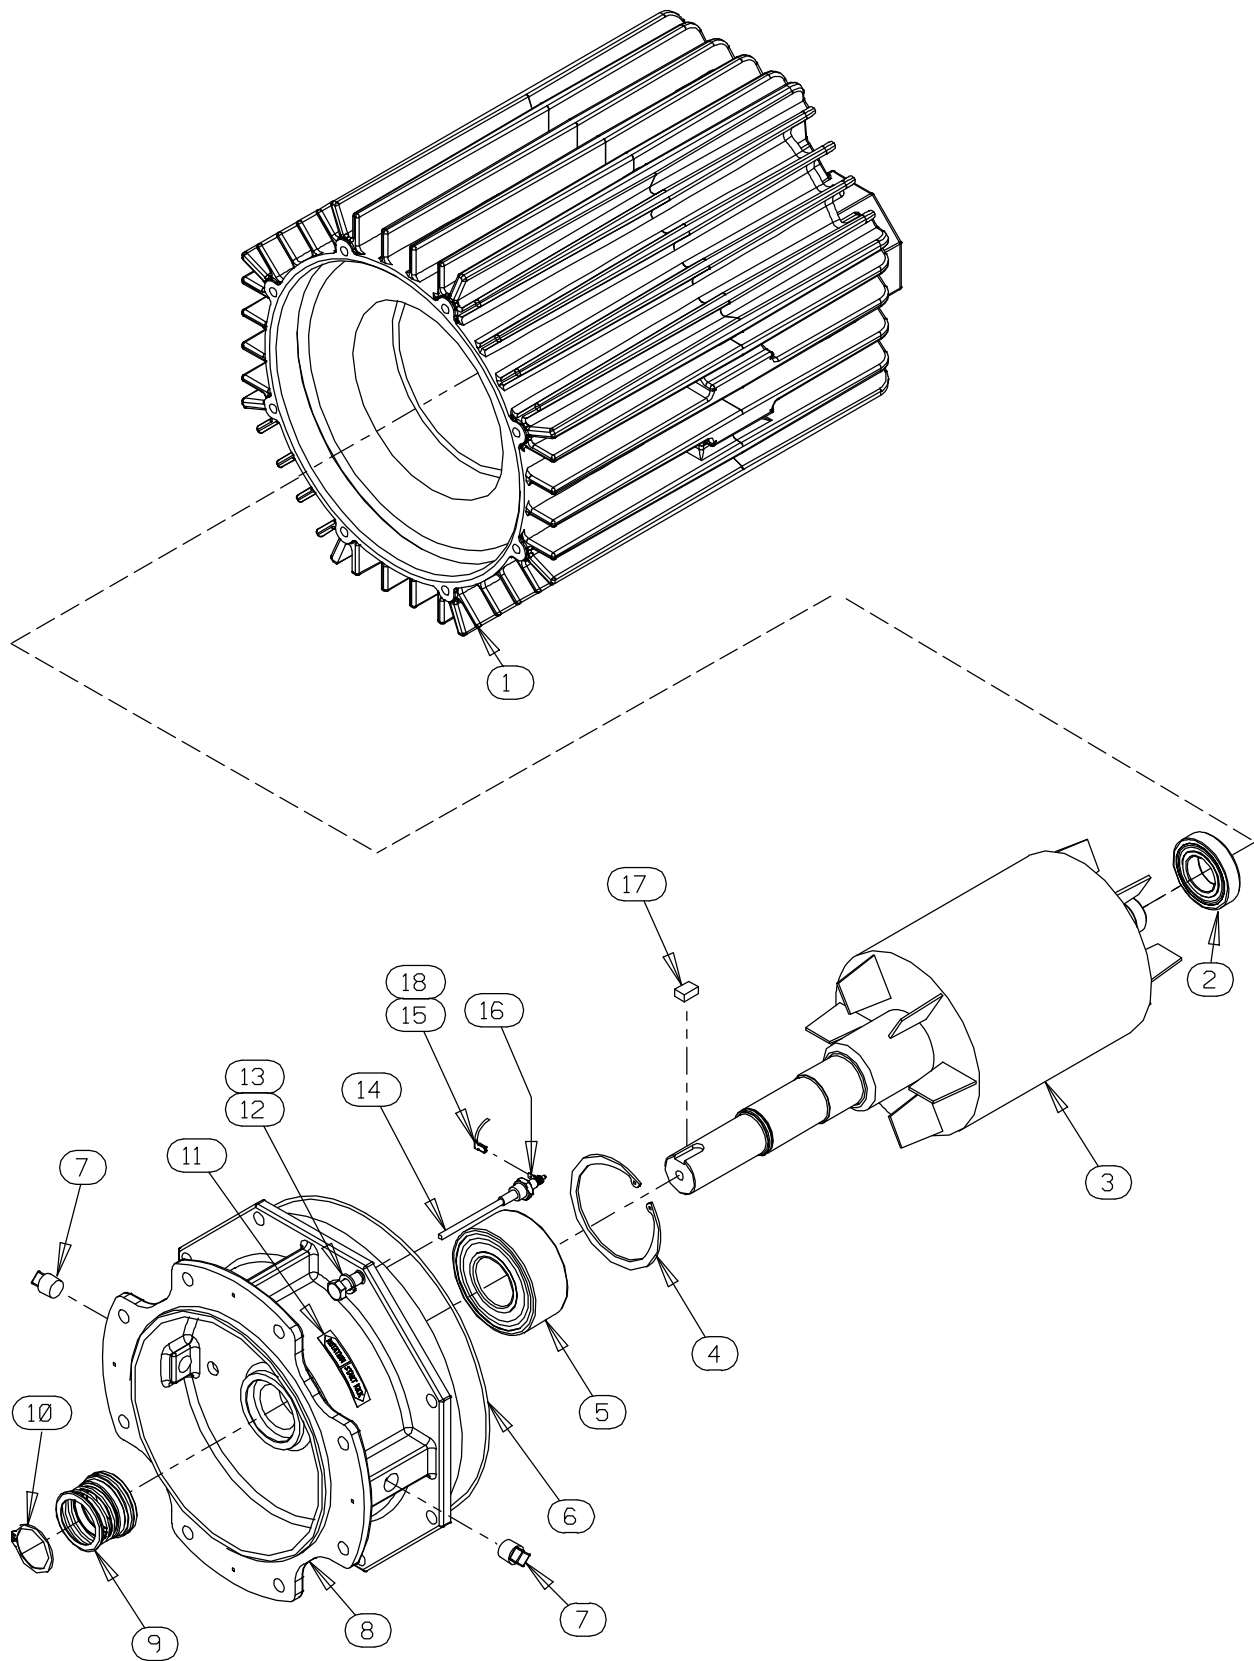

Figure E-2. Motor Assemblies
#### (Figure E-2)
To remove the impeller, use two thin-bladed screwdrivers positioned 180° apart to pry on the back of the impeller and “walk” the impeller off the shaft. Use increasingly larger screwdrivers (or wedges) as necessary. After the impeller comes free of the shaft, retain the impeller key (17, Figure E-2).
*An alternate method of removing the stationary element is to remove the screws (24) securing the seal plate (22) to the motor assembly (11). Pry the assembled seal plate and stationary element off the shoulder of the intermediate (8, Figure E-2). Remove the O-ring (10) and press the stationary element and seat out of the seal plate from the back side.*
(Figures E-2 and E-3)